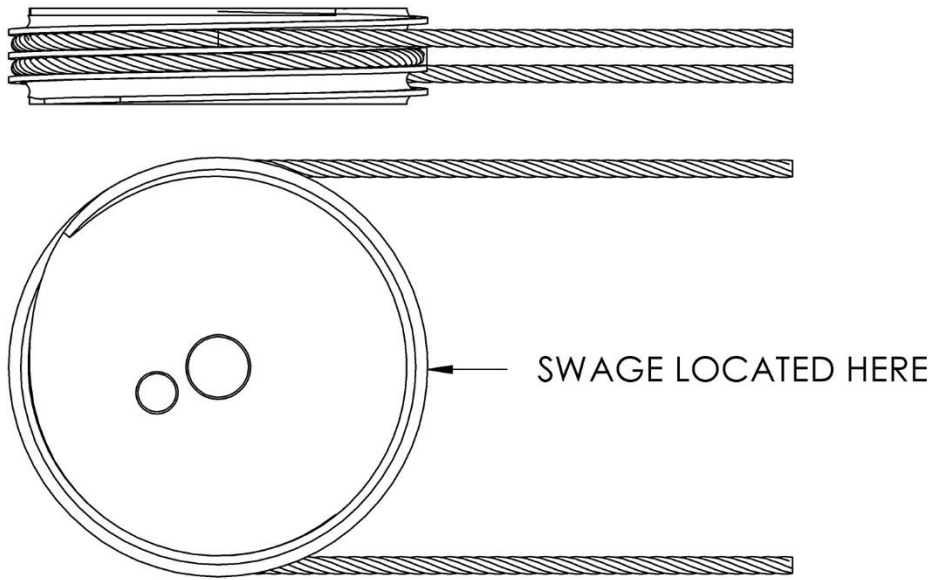
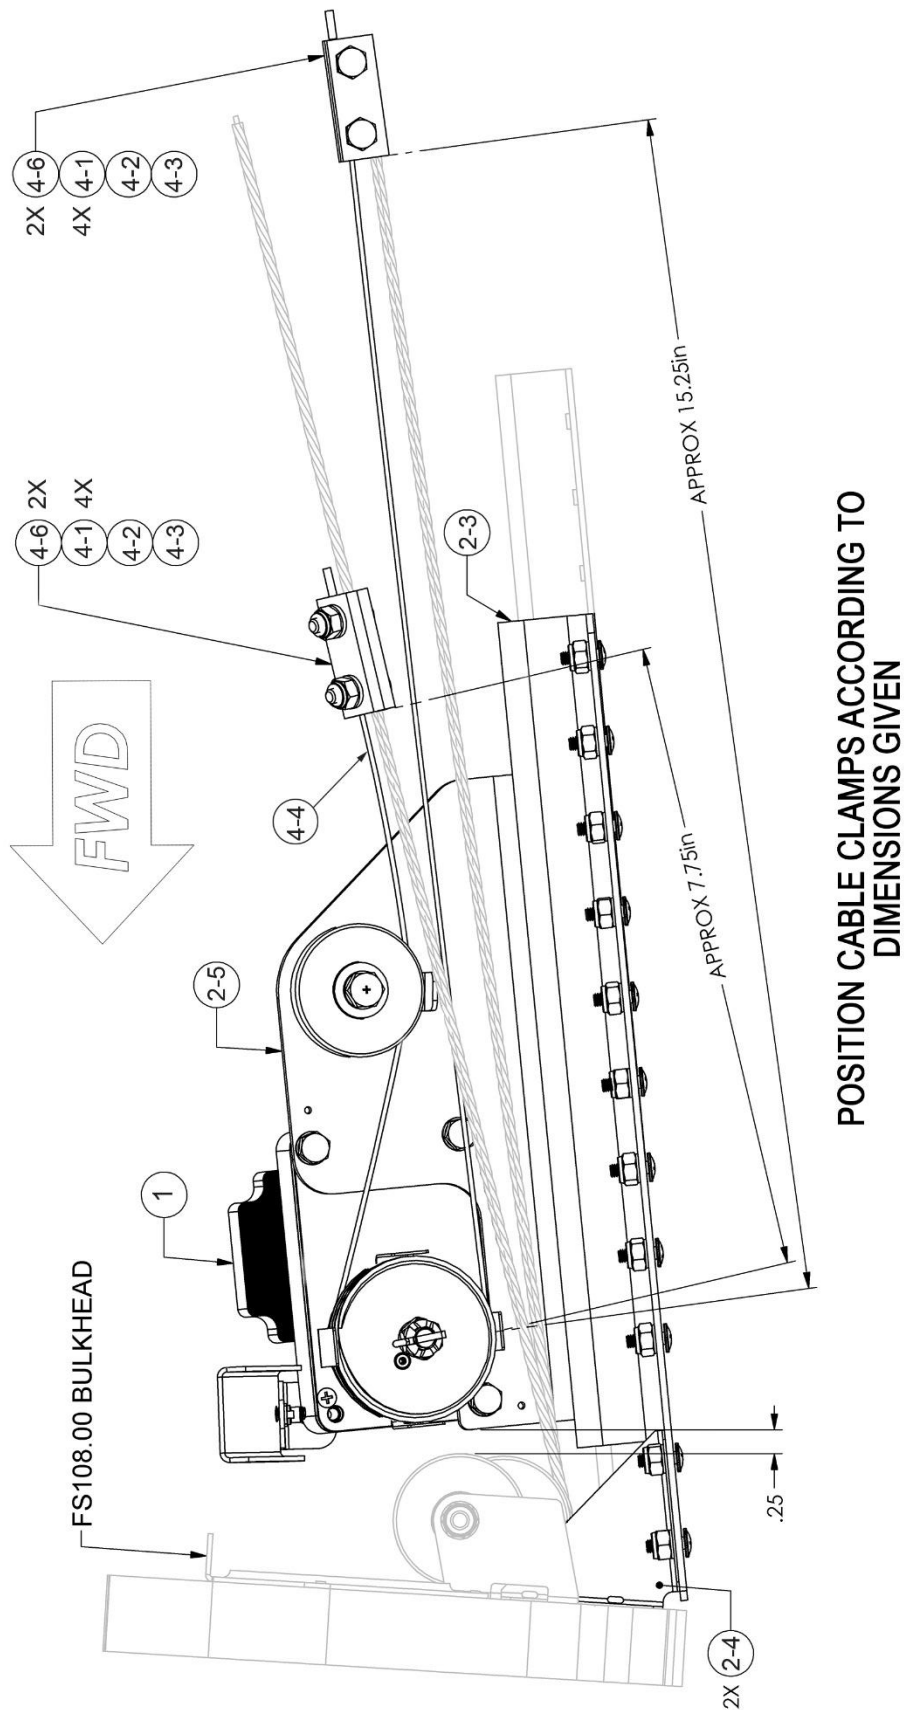

Figure 28: Pitch Servo Capstan and Bridle Cable Orientation
Figure 29: Pitch Servo Bridal Cable Clamp Locations
5. Rotate capstan until swage hole points to 3 o'clock (see Figure 28).
6. Once swage hole is located, pass one end of cable underneath a cable guard flange so that cable sits in the center groove (see Figure 28).
7. Set cable swage into swage hole and pass the other end of the bridle cable under opposite cable guard flange (see Figure 28 and Figure 29).
8. Following grooves, feed both cable ends around capstan and underneath next set of cable guard flanges (see Figure 28 and Figure 29). Wrap cable 1.5 times. Capstan may need to be rotated to expose swage hole if it is underneath a cable guard flange.
- If this is a new installation, attach clamps to cables and position as shown in Figure 29. The grooves in cable clamps are designed to work with included bridle cable diameter of 1/16" (small groove) and aircraft control cable diameter of 1/8" (large grooves).